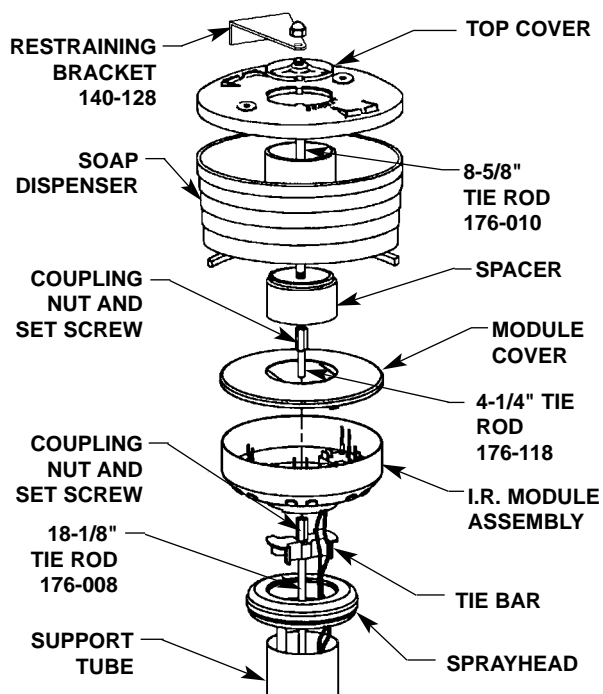

Figure 8
- FOR UNITS WITH SOAP OPTION, INSTALL THE SPACER, SOAP DISPENSER AND COVER USING THE COUPLING NUT, THIRD TIE ROD (8-5/8" LONG) AND SECOND COUPLING NUT AS SHOWN (SEE FIGURE 8 ON PAGE 11). SECURE WITH SPRAYHEAD RESTRAINING BRACKET, ACORN NUT AND SOCKET HEAD SCREW.